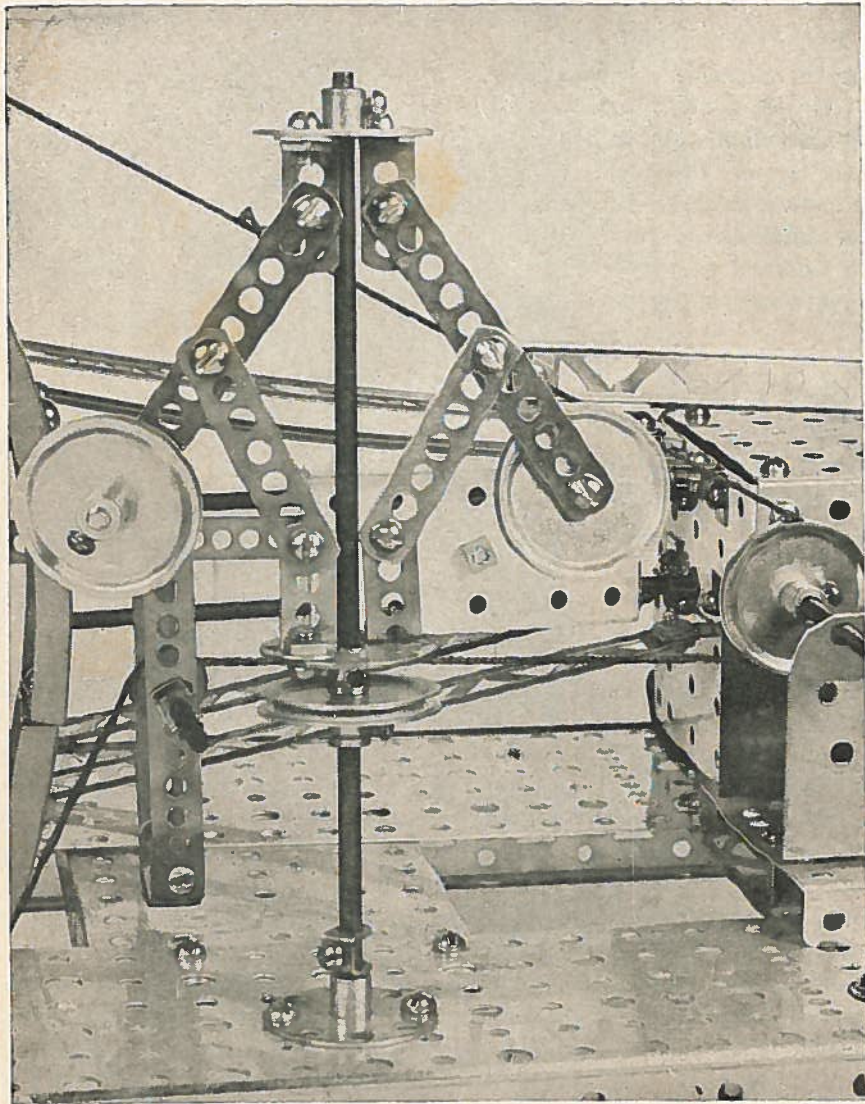

FIGURE 7
The governor (Fig. 7) is built with 2 (BT) pierced discs, 2 (H) 11 hole strips, 2 (G) 7 hole strips with 4 (O) pawls. Two pawls are mounted to each pierced disc. The flyweights are P7-A pulleys. A (CZ) 7" axle rod is used as a center support and is mounted to the base and revolves in a (BT) pierced disc. The governor is driven from the (DB) motor pulley on the power unit with string to the P7-A pulley on the governor rod. When the speed of the shaft is increased, the weights move up, swing out and the lower (BT) pierced disc, which is free on the shaft, moves up toward the top. As a result this model governor acts like a real one. The string take-up shown in Fig. 7 behind the flywheel is built with an (M) small double angle, 2 (H) 11 hole strips, an (AQ) sheave pulley, a P57-A 2 $\frac{1}{8}$ " axle and 2 P37 collars.